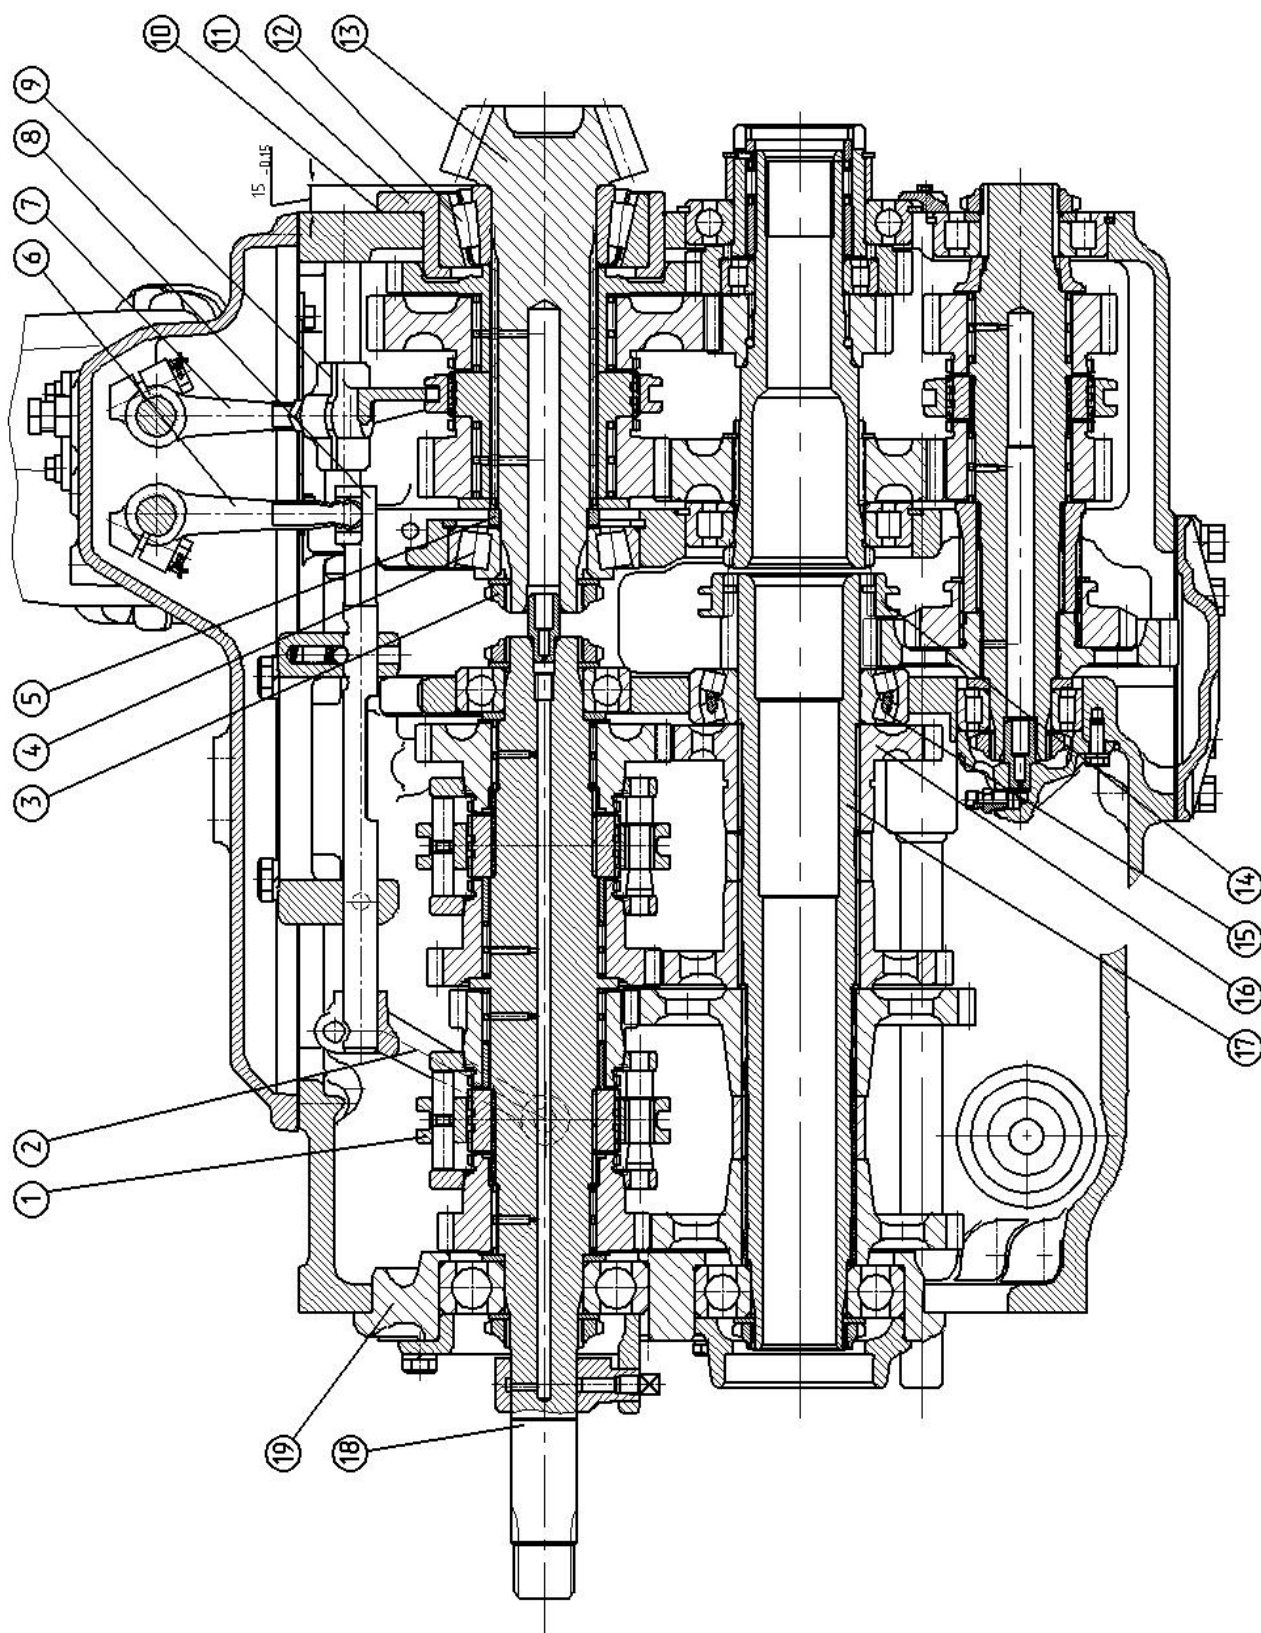

Figure 4.98
a) end face of conical bearing 12 (Figure 4.98) must be located 15 $_{-0,15}^{+0,15}$ mm away from GB rear end face. Adjustment is made by putting necessary amount of spacers under cup flange 11, with nut 3 torqued to 22...30 kgf m, and adjustment washer 5 being removed.